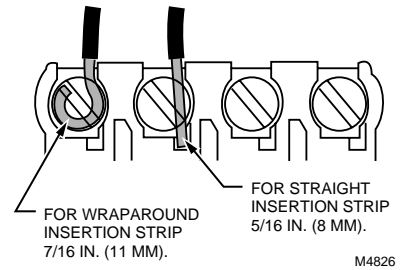

Fig. 11. Proper wiring technique.
1. Loosen the terminal screws on the subbase and connect the system wires. See Fig. 11.
NOTE: After wiring, check that all connections are tight and secure. See Fig. 11. Loose or intermittent wire connections can cause inconsistent system operation.